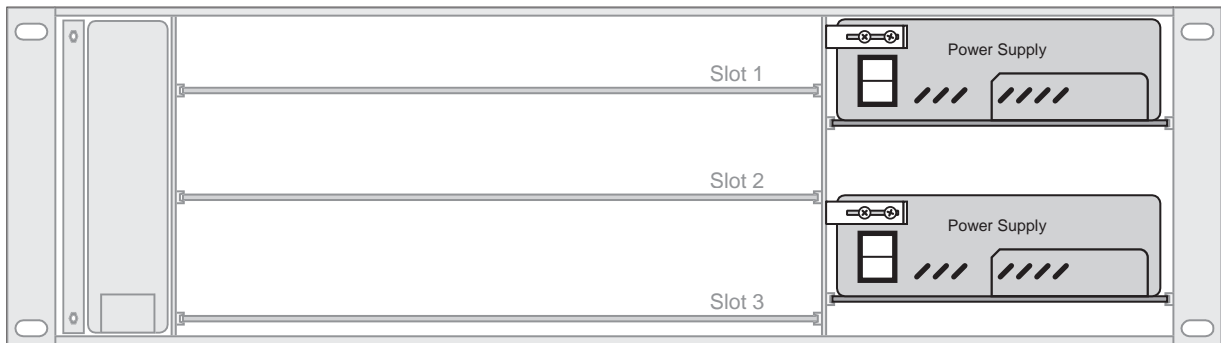

Figure 4.2 The Frame Power Supplies are Located on the Right Side of the Frame (QMD Shown)
6. Find the **Frame Power Supplies** located on the right hand side, inside the frame (**Figure 4.2**). The yellow **Standby** indicator should be lit, indicating that AC power is connected to the power supply, but the power supply is not turned on.